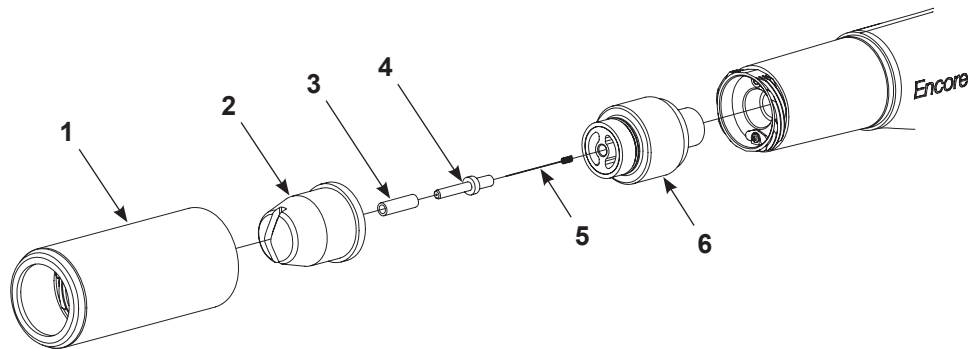

Figure 9 Cleaning a Flat/Corner Spray Nozzle
1. See Figure 9. Unscrew the nozzle nut (1) counterclockwise
2. Pull the nozzle nut (1) and nozzle (2) off the spray gun. Remove the nozzle from the nut and clean both with low-pressure compressed air and clean cloths. Replace if worn or damaged.
4. Inspect the wear sleeve (3) and the electrode holder (4). If either is worn or damaged, replace them with the flat spray electrode holder kit.
- a. Unscrew the electrode holder and sleeve from the electrode support assembly (6).
- b. Install the new sleeve (3) over the new electrode holder (4).
- c. Install the electrode (5) in the new holder, then screw the holder into the electrode support assembly (6).
6. Install the nozzle (2) onto the electrode support (4), then screw the nozzle nut (1) onto the spray gun body clockwise until finger tight.